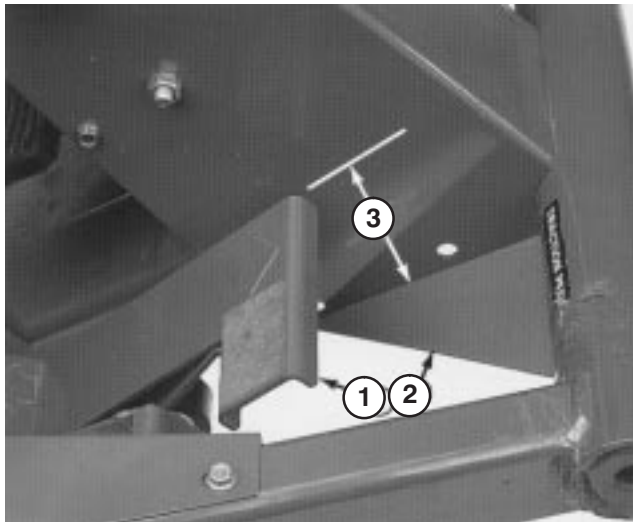
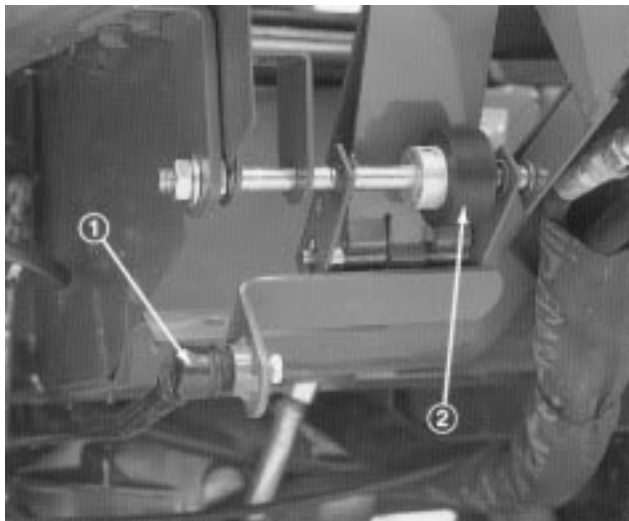

Figure 41
Figure 42
2. Press down on front of traction pedal and check travel. There should be approximately 3.50" clearance between end of pedal and floor plate when pedal in fully depressed (Fig. 41). Adjust pump control rod (Fig. 42) to attain dimension.
1. Loosen two nuts securing traction pedal shaft on right side of pedal (Fig. 42).